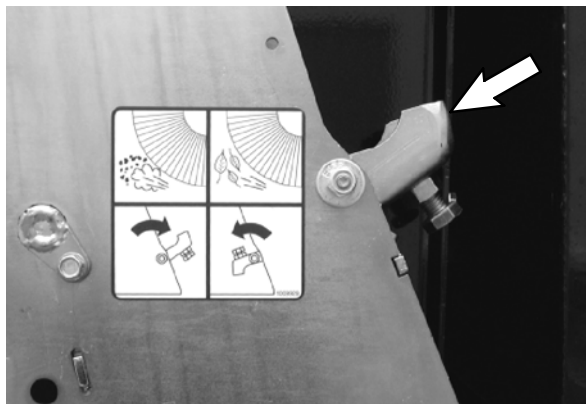

FIG. 2
7. If machine is equipped with leaf mode stops, remove the stops and hardware from the conveyor lift assembly being replaced. Set the leaf mode stops and hardware aside. Refer to Fig. 2.